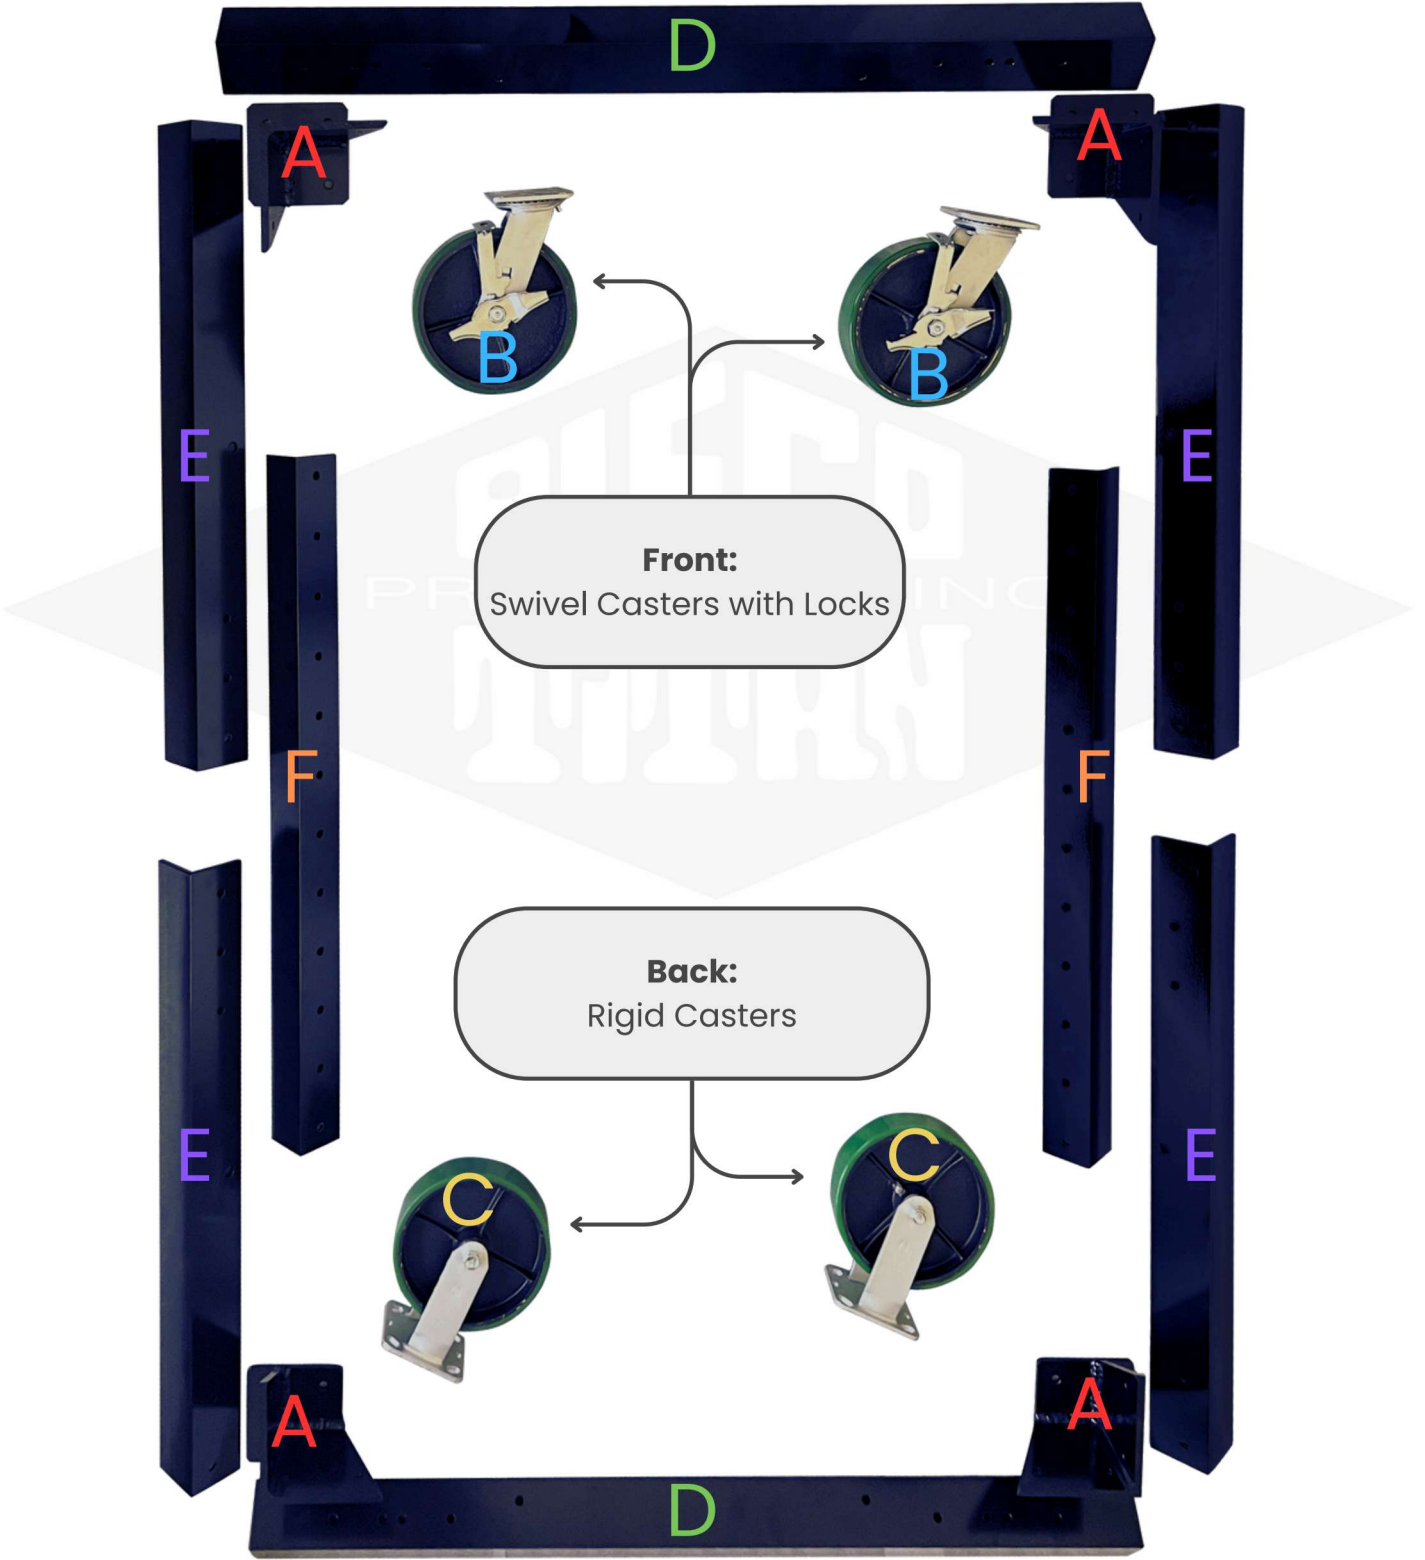
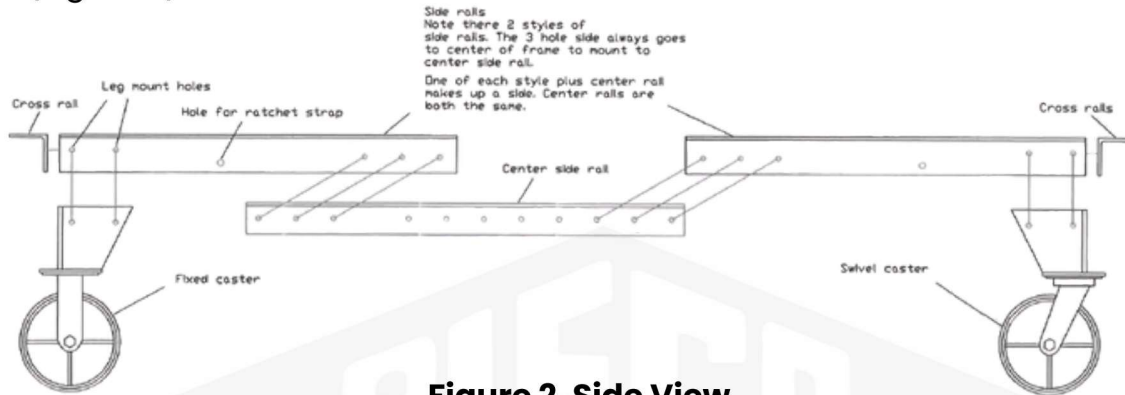

Figure 1. Part Layout
Figure 2. Side View
Step 1: Lay out all components face down in the shape of the dolly with the holes in the rails facing in to make sure all rails are in the correct position (Figure 1). The Side Rails (Part **E**) should have the sides with 2 holes closest to the legs (Part **A**) and the side with 3 holes towards the center side rail (Part **F**) (Figure 2).